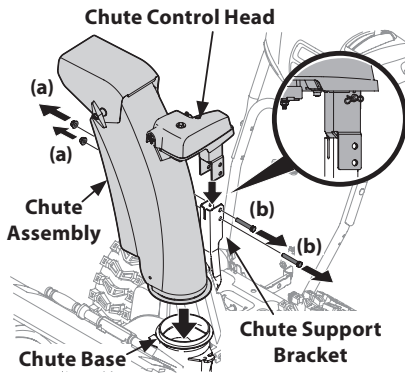

Figure 2-31
1. Remove lock nuts (a) and hex screws (b) from chute support bracket (this will require two wrenches). See Figure 2-31.
2. Place chute assembly onto chute base and chute control head onto chute support bracket. See Figure 2-31.